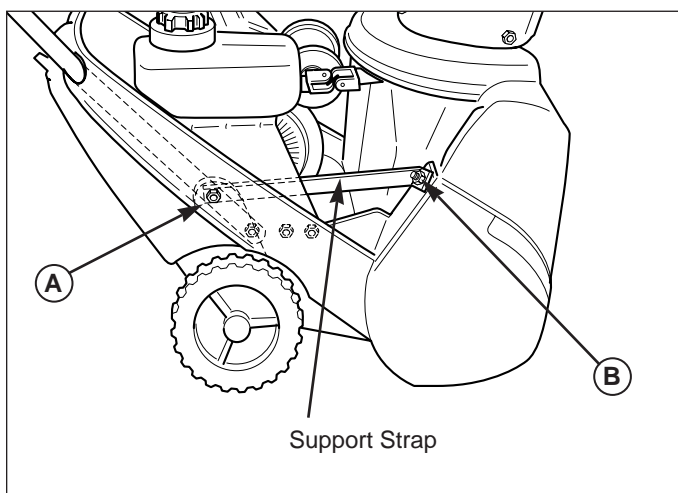

Figure 4. Support Strap Installation
④ Step Four —See Figure 4. Loosen and remove the capscrews at locations (A) and (B). Retain the hardware.
⑤ Step Five — Attach the support strap supplied in this kit as shown in Figure 4. The strap is attached to the outside of the handle at locat (A), and ont top of the housing at location (B). Secure with the capscrews, lockwashers, and nuts saved from Step 4.